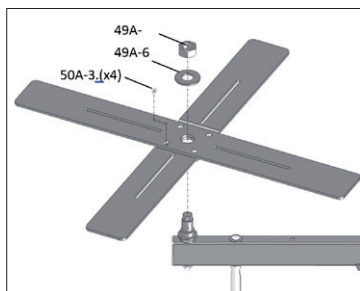
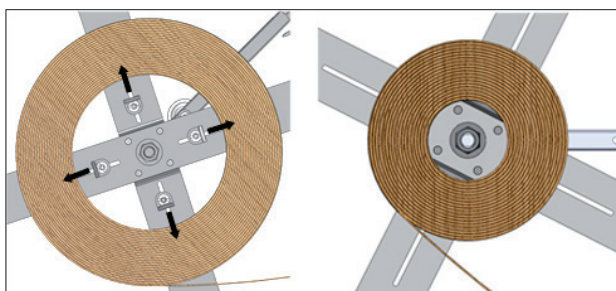

Fig. 6
Fig. 7
- Assemble the center roller/rollers onto the dispenser (Fig 6), the rollers can be added or removed to fit different diameter of the Edgeband roll used. (Fig 7)